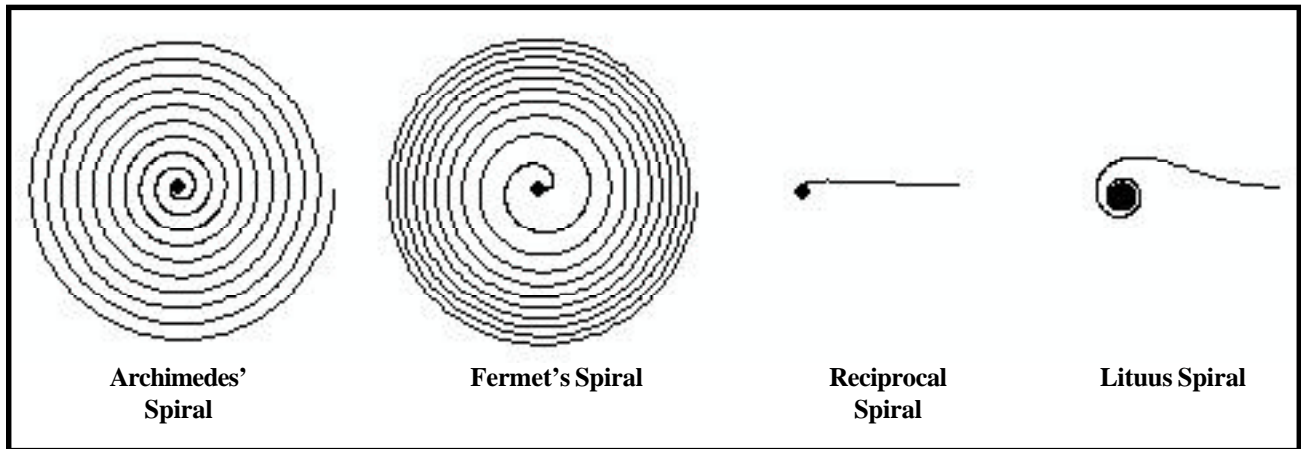
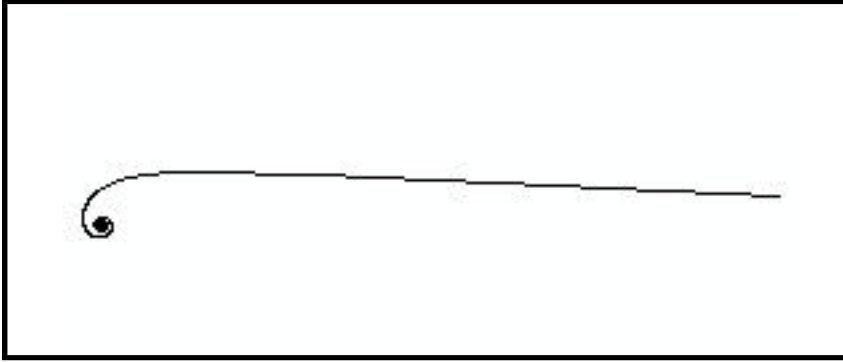

Figure 5 - Special Plane Curves with a Bandwidth of 10, Spiral Radius of 100 and Starting Angle of 0 Degrees
Figure 8 - Close-up of the Reciprocal Spiral
- a. Shown in Figures 5, 6 and 7 are the various types of spirals generated with specific bandwidth, spiral radius and starting angle values. The increment angle that was used to generate the spirals was the same. As can be seen, a larger bandwidth value reduces the number of rings with a given spiral radius value.
- b. Shown in Figures 8 and 9 are close-ups of the spirals shown in Figure 5.